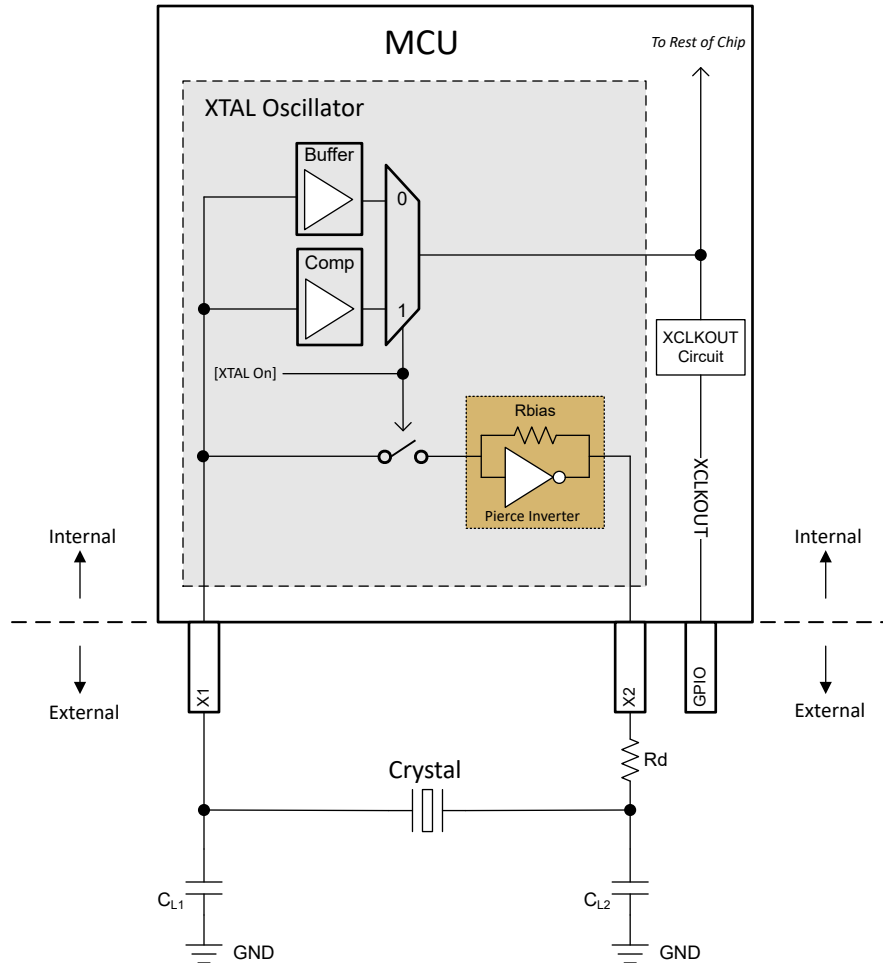

Figure 6-14. Electrical Oscillator Block Diagram
The electrical oscillator in this device is a Pierce oscillator. It is a positive feedback inverter circuit that requires a tuning circuit in order to oscillate. When this oscillator is paired with a compatible crystal, a tank circuit is formed. This tank circuit oscillates at the fundamental frequency of the crystal. On this device, the oscillator is designed to operate in parallel resonance mode due to the shunt capacitor (C0) and required load capacitors (CL). Figure 6-14 illustrates the components of the electrical oscillator and the tank circuit.
From Figure 6-14, CL1 and CL2 are in series; so, to find the equivalent total capacitance seen by the crystal, the capacitance series formula has to be applied which simply evaluates to $[CL1]/2$ if $CL1 = CL2$.